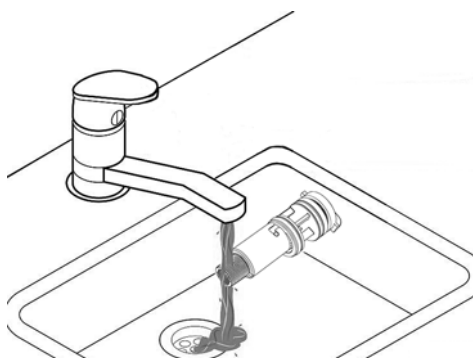
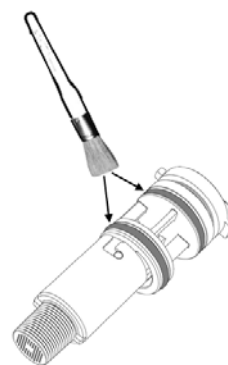

fig. 44
fig. 45
- The flowmeter components can thus be cleaned (see fig. 44 and fig. 45) or replaced.